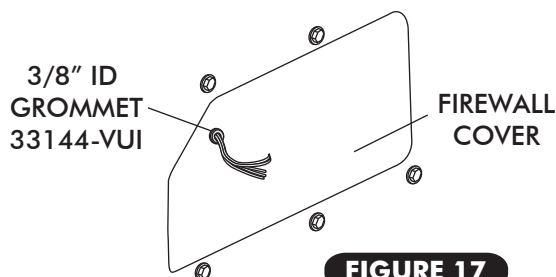

FIGURE 17
- ☐ INSTALL 3/8" ID GROMMET. SEE FIGURE 17.
- ☐ ROUTE A/C WIRES THROUGH 3/8" ID GROMMET AS SHOWN IN FIGURE 17 (12 VOLT/ GROUND/ BINARY SWITCH/ HEATER VALVE).